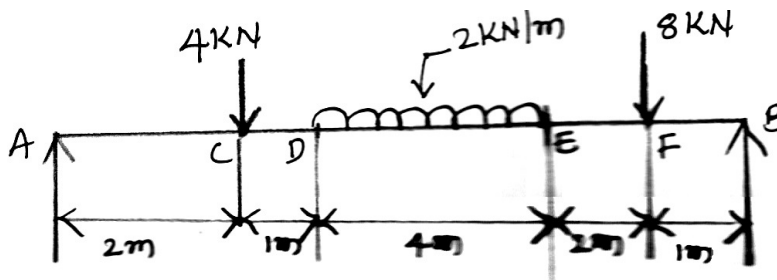

Fig Q 3(c)
- c. Draw the SFD and BMD for the simply supported beam shown in Fig. Q 3(c)